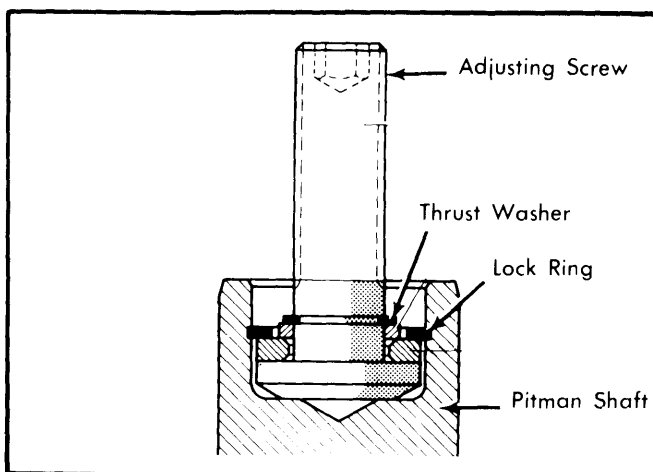

Fig. 4 Sectional View of Adjusting Screw
2) With steering in center position, turn adjusting screw counterclockwise. This forces pitman shaft, with housing, from steering gear case. Remove pitman shaft with cover. Remove "O" rings from cover. Remove lock ring and seal ring. Remove lock ring from pitman shaft and remove adjusting screw with thrust washers. See Fig. 4.